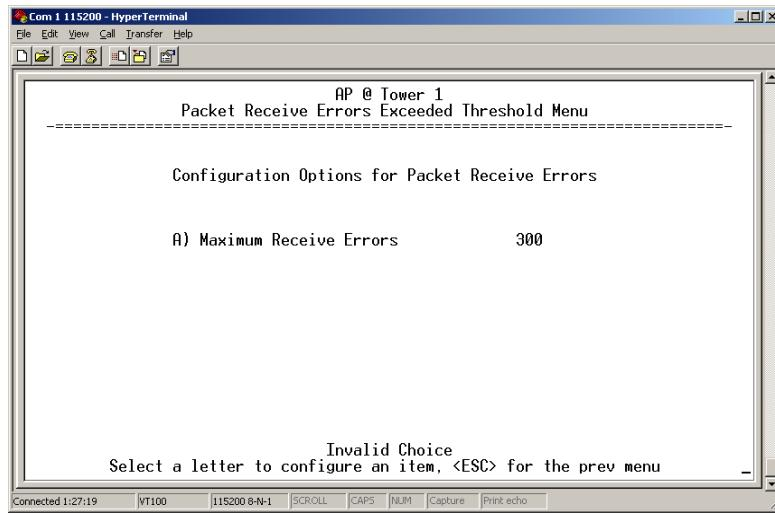

Figure 3-78. Packet Receive Errors Exceeded Threshold Menu
- **Packet Receive Errors exceeded threshold**—This setting determines whether or not a switchover occurs when the number of Packet Receive errors exceeds the number set in Figure 3-78 on Page 108. [enabled, disabled; disabled]
- **Packet Receive Errors Exceeded Threshold**—This selection opens a submenu (Figure 3-78 on Page 108) where you can view or change the maximum allowable number of receive errors.